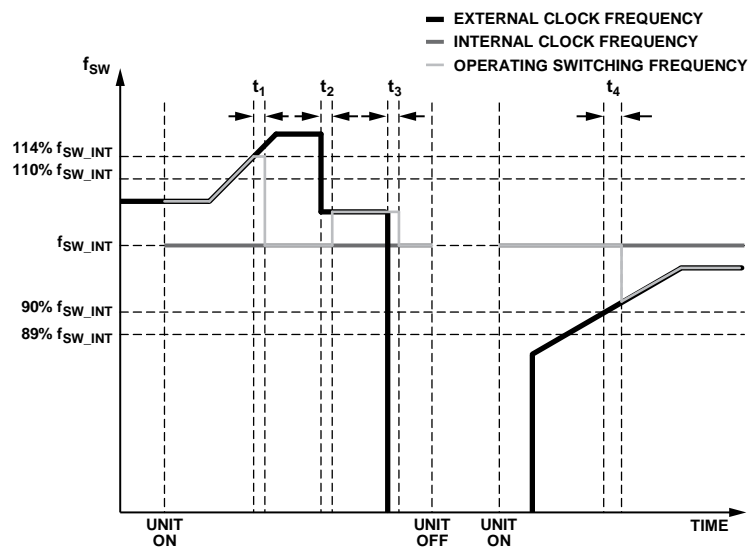

Figure 17. Synchronization Operation
2. If all the periods of the consecutive 64 most recent cycles of the external clocks fall within 90% to 110% of the internal switching clock period, the ADP1051 uses the latest current cycle as the synchronization reference, and the period of the external clock is identified. This interval is  $t_2$  or  $t_4$ , as shown in Figure 17. Otherwise, the ADP1051 discards this cycle and looks for the next cycle (frequency capture mode).
At the same time, the phase shift between the synchronization reference and the internal clock is detected. When the phase shift falls within the phase capture range, the PWM clock returns to the internal clock set by the internal oscillator. This interval is  $t_1$  or  $t_3$ , as shown in Figure 17.
Figure 17 shows the synchronous operation diagram. The internal frequency,  $f_{SW\_INT}$ , is the internal free-running frequency of the ADP1051. Before the synchronization is locked, the ADP1051 runs at  $f_{SW\_INT}$ . The external frequency,  $f_{SW\_EXT}$ , is the frequency of the external clock that the ADP1051 needs to synchronize. After synchronization is locked, the ADP1051 runs at  $f_{SW\_EXT}$ .